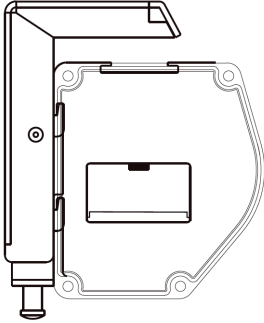

Fig. 11
- To lock the screen firmly to the brackets, turn the locking screws clockwise. This will cause the screen to move upwards against the bracket. When this has happened on both sides the screen is secured against being inadvertently removed from the brackets. This is the only permissible way to mount the screen! (Fig. 11 and 12)